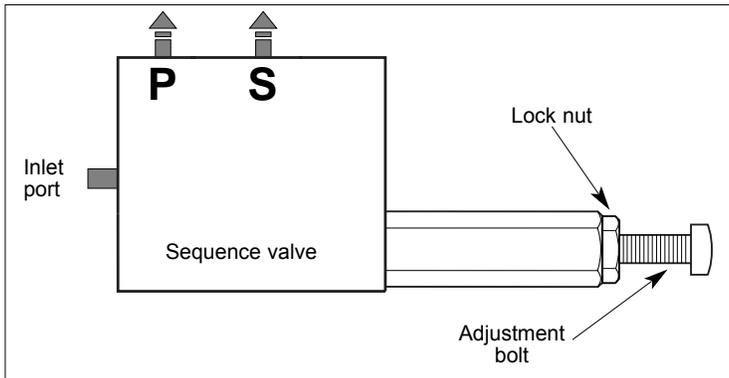

fig. 1
1. Unscrew the lock nut of the sequence valve — *fig. 1*;
4. If the pressure is higher than 700 PSI, unscrew the adjustment bolt of the sequence valve to get a pressure of 700 PSI (*during down stroke*) — *fig. 1*;
5. If the pressure is lower than 700 PSI, screw the adjustment bolt of the sequence valve to get a pressure of 700 PSI (*during down stroke*) — *fig. 1*;
6. Once the sequence valve adjusted, tighten the lock nut — *fig. 1*.